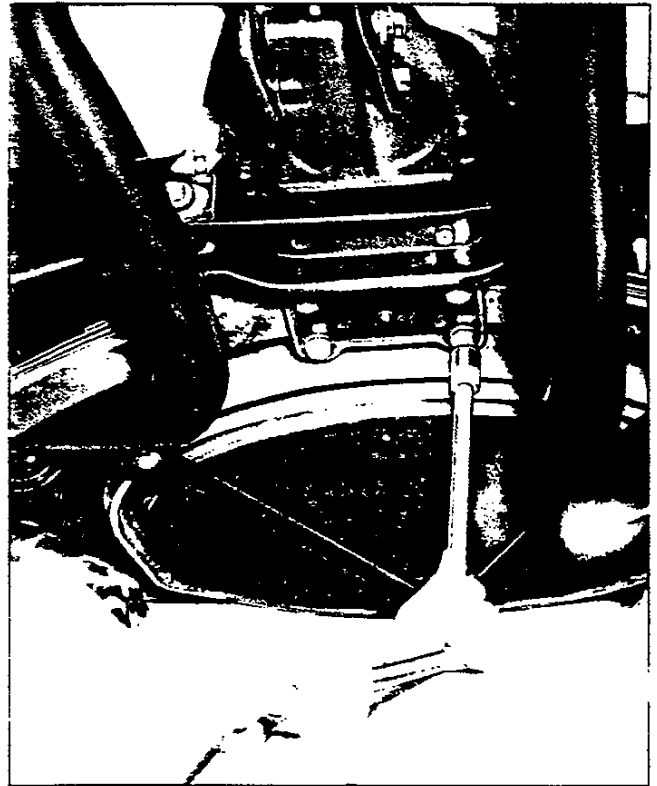

Fig. 19—Removing Clamp Plate
8. Remove four bolts and washers securing spring center clamp plate (fig. 19).